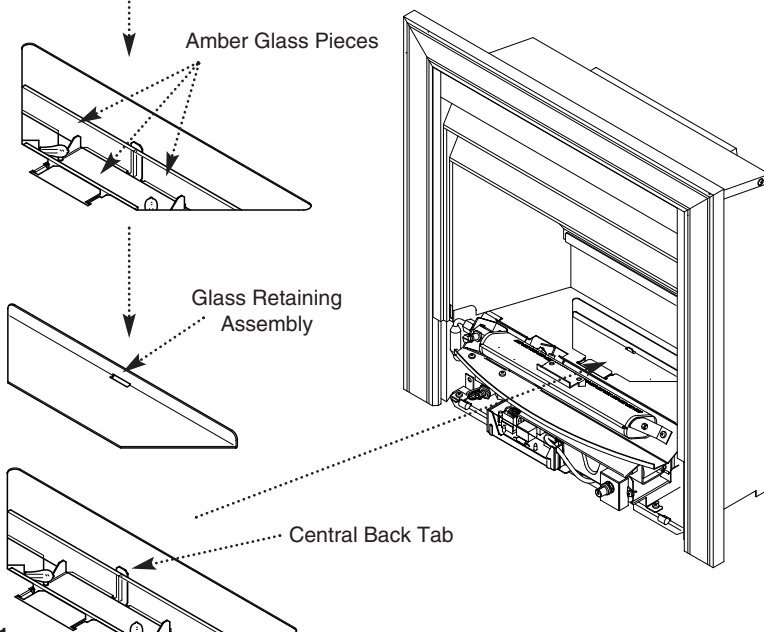

Fig. 21
11. Lay the glass retaining assembly into the opening in the fire box, locating the slot over the central back tab (Fig. 21).